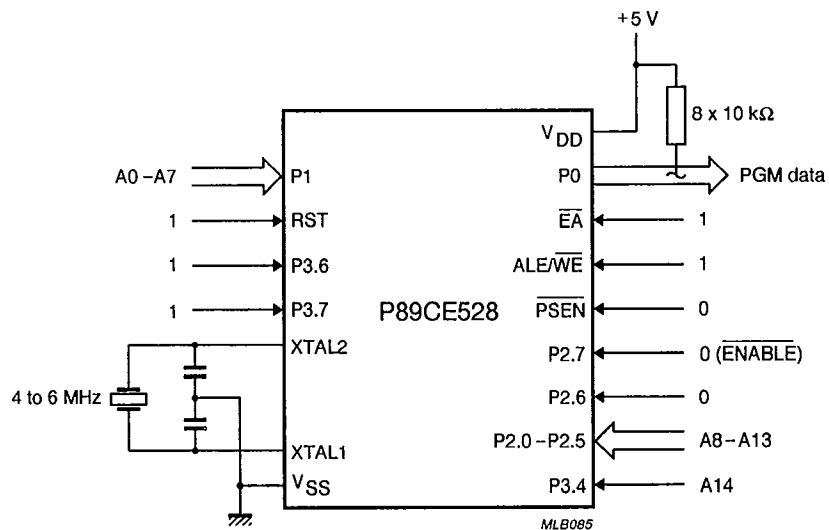

Fig.23 Programming verification.
(3) For verify conditions see Figure 23.